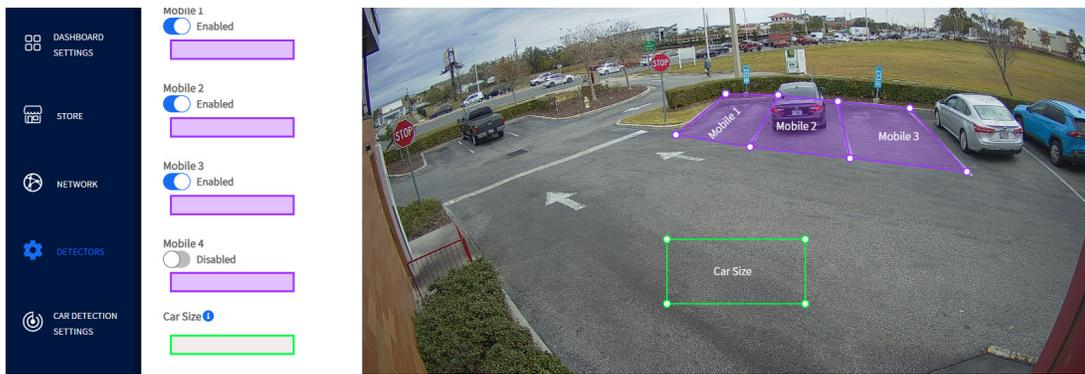
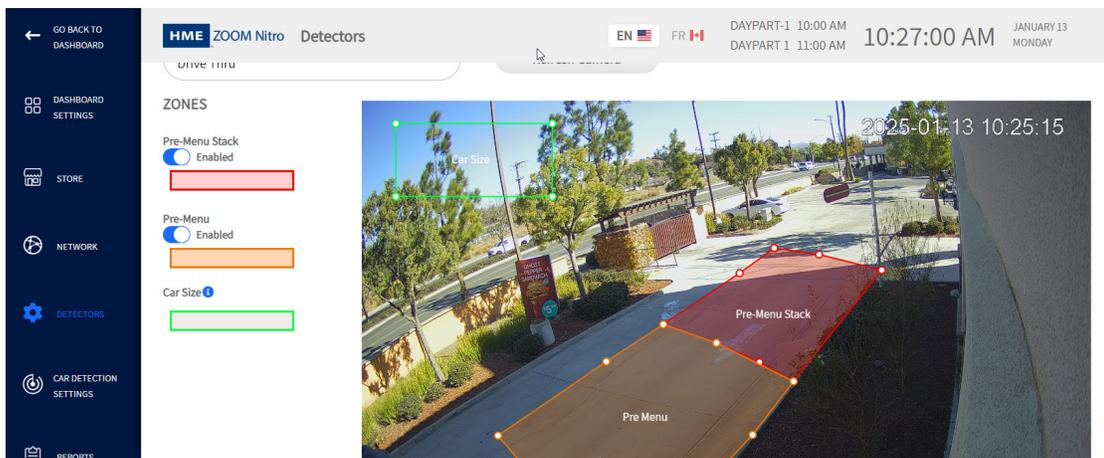
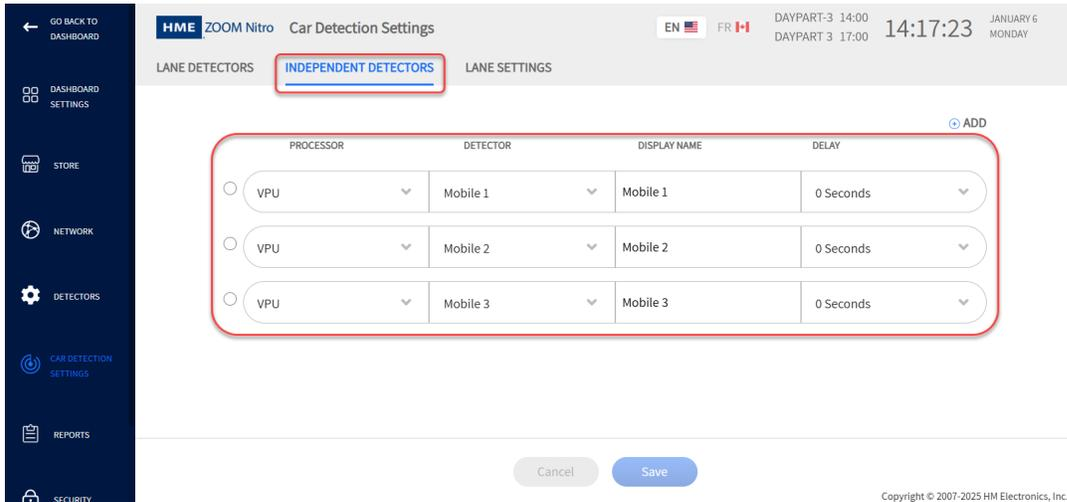

Fig. 25
Fig. 28
Fig. 31
- Repeat the process for additional mobile spaces (up to four total per camera). Fig. 25 shows three mobile spaces configured. For easy identification, it is best practice to assign the space numbers in order (left to right here).
12. When you move the cursor over a box, it becomes a hand which allows you to drag the box into position. The bounding boxes have eight adjustable anchor points, one on each corner and one on each side. After moving the box into position, grab any anchor point and begin adjusting the box to match the Pre-Menu and Pre-Menu Stack zones you desire to capture. Fig. 28 shows both zones drawn to capture the drive-thru lane events.
Use +ADD icon to add rows based on how many mobile spaces are used (maximum of four per camera). The example in Fig. 25 shows three mobile spaces which are all added here in Fig. 31.
- Fig. 28 shows where the Mobile spaces are displayed on the dashboard. The camera view in Fig. 25 shows a vehicle in Mobile space 2, and it is reflected here on the dashboard.